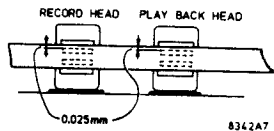

Fig. 13
- c. Adjusting the height of the head (Fig. 13)